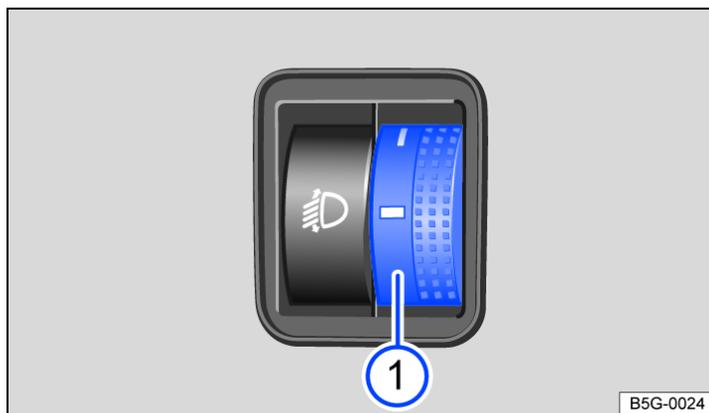
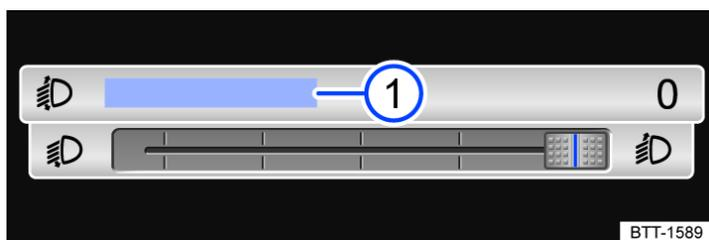

Fig. 1 Next to the steering wheel: control for headlight range control ①.
Fig. 2 In the Infotainment system: slider for headlight range control.
Depending on the equipment level, the headlight range can be adjusted either with the control → Fig. 1 or with the slider in the Infotainment system → Fig. 2.
- Touch the function button **Headlight range control** → Fig. 2 ①.
- Turn the control → Fig. 1 ① to the required position (example vehicle load level).